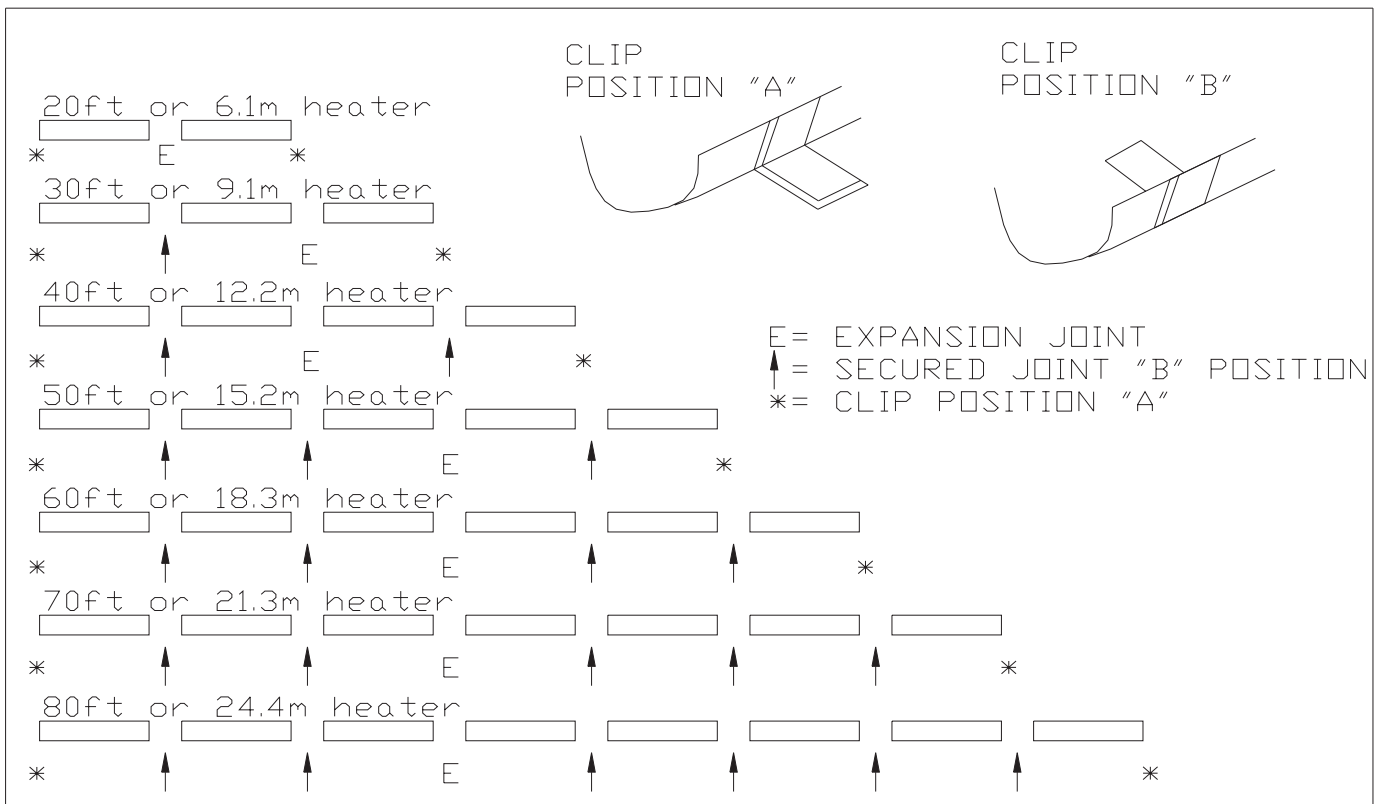

Figure 2.5.3
3. Overlap reflectors 4 inches/10.2cm for support and secure together with supplied clips or sheet metal screws. Make sure to leave an expansion joint as shown in Figure 2.5.3.
4. Install clips in their "A" position as shown in Figure 2.5.3 on the first and last suspension hanger. Clips are located right side front and left side back of the wire suspension hanger.